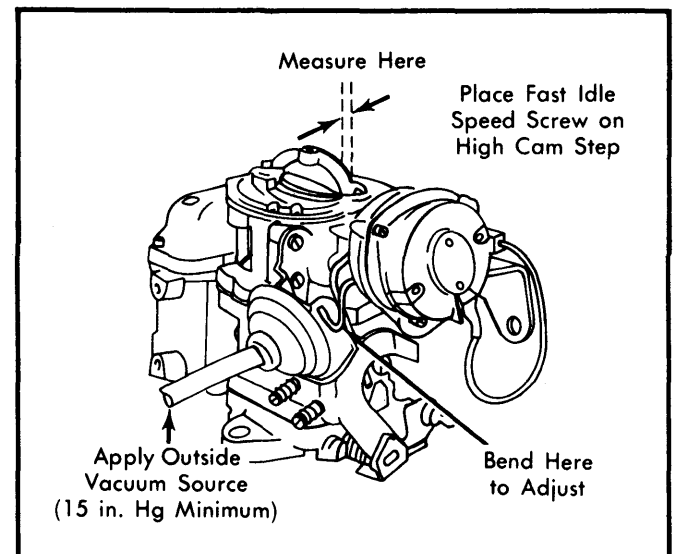

Fig. 5 Adjusting Initial Choke Valve Clearance (Choke Pull-Down)
1) Position fast idle speed screw on high step of fast idle cam. Cool choke housing until choke valve is lightly closed in air horn. See Fig. 5.